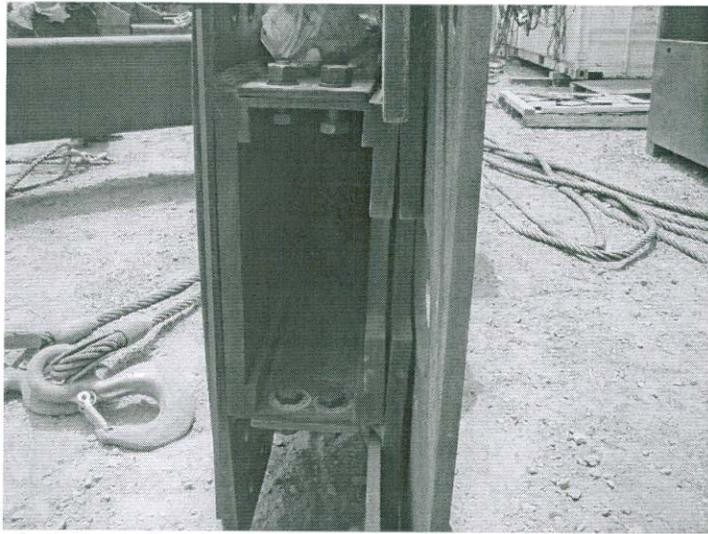

Fig 7. The gusset plate are bended due to welding. The red line indicates the ideal position.
- Noticed that most gusset plates are bended (see Fig 7).